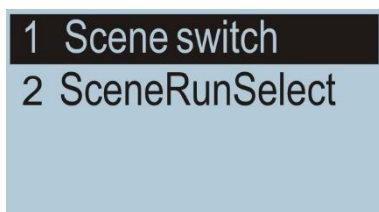

Figure 7.28
2. Select the panorama switch mode, "in order" and "independent respectively" according to menu in Figure 7.28 and 7.29.